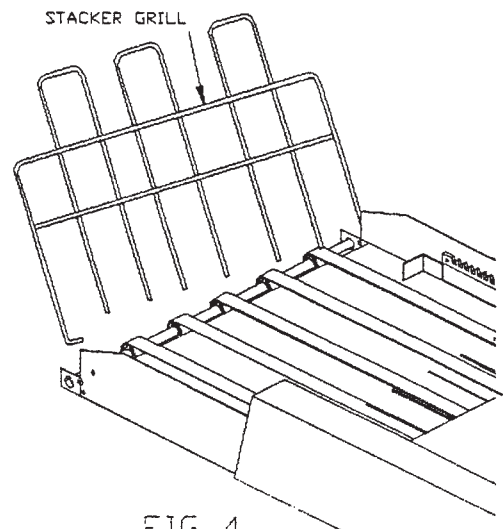

FIG 4
5. Slip the Stacker Grill into the holes. The Stacker Grill should be slanted away from the Burster. (Large forward holes) (Fig. 4)